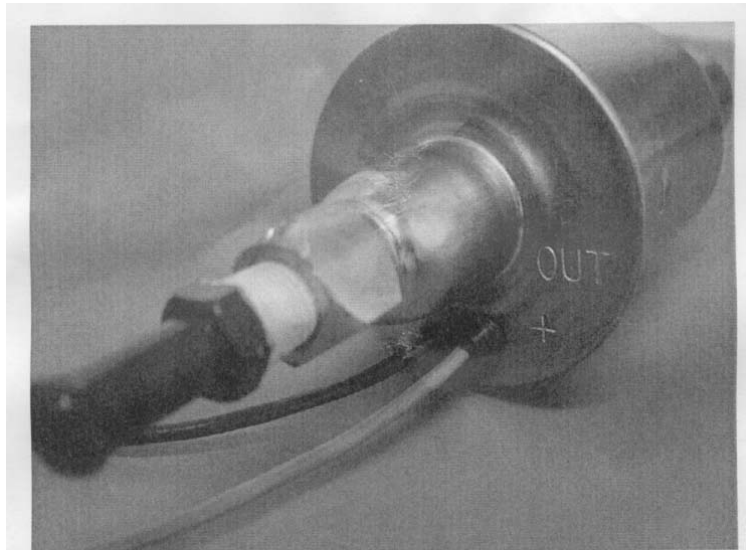

Figure 5. View showing wire polarity and pump output.
5. Connect white wire to a Positive (+) 6V (8011) or 12V(8012, 8016) switched ignition source with a minimum 20 amp rating. Connect black wire to chassis ground. See figure 5.